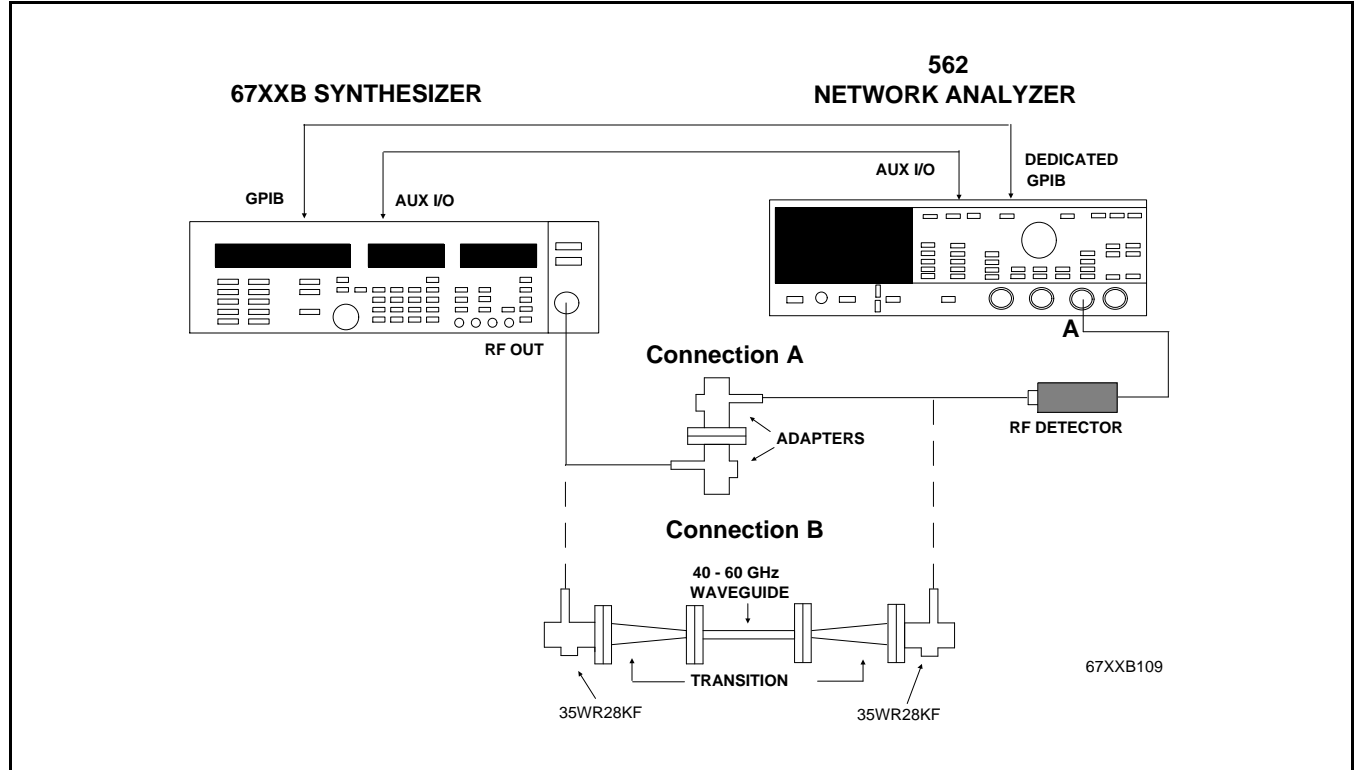

Figure 2-8. Equipment Setup for Harmonic Test: RF Output Signals From 10 to 30 GHz
1. Connect the equipment as shown in Figure 2-8.
- (1) *(To test harmonics of 67XXB fundamental frequencies between 7 and 20 GHz)* Select the appropriate Waveguide-to-Coaxial Adapters for the fundamental frequency band being tested for harmonics and connect as shown in Connection A of Figure 2-8.
- (2) *(To test harmonics of 67XXB fundamental frequencies between 16 and 30 GHz)* Referring to Connection B of Figure 2-8, connect the Adapters and Waveguide components shown between the 67XXB RF OUTPUT and the RF Detector Input.